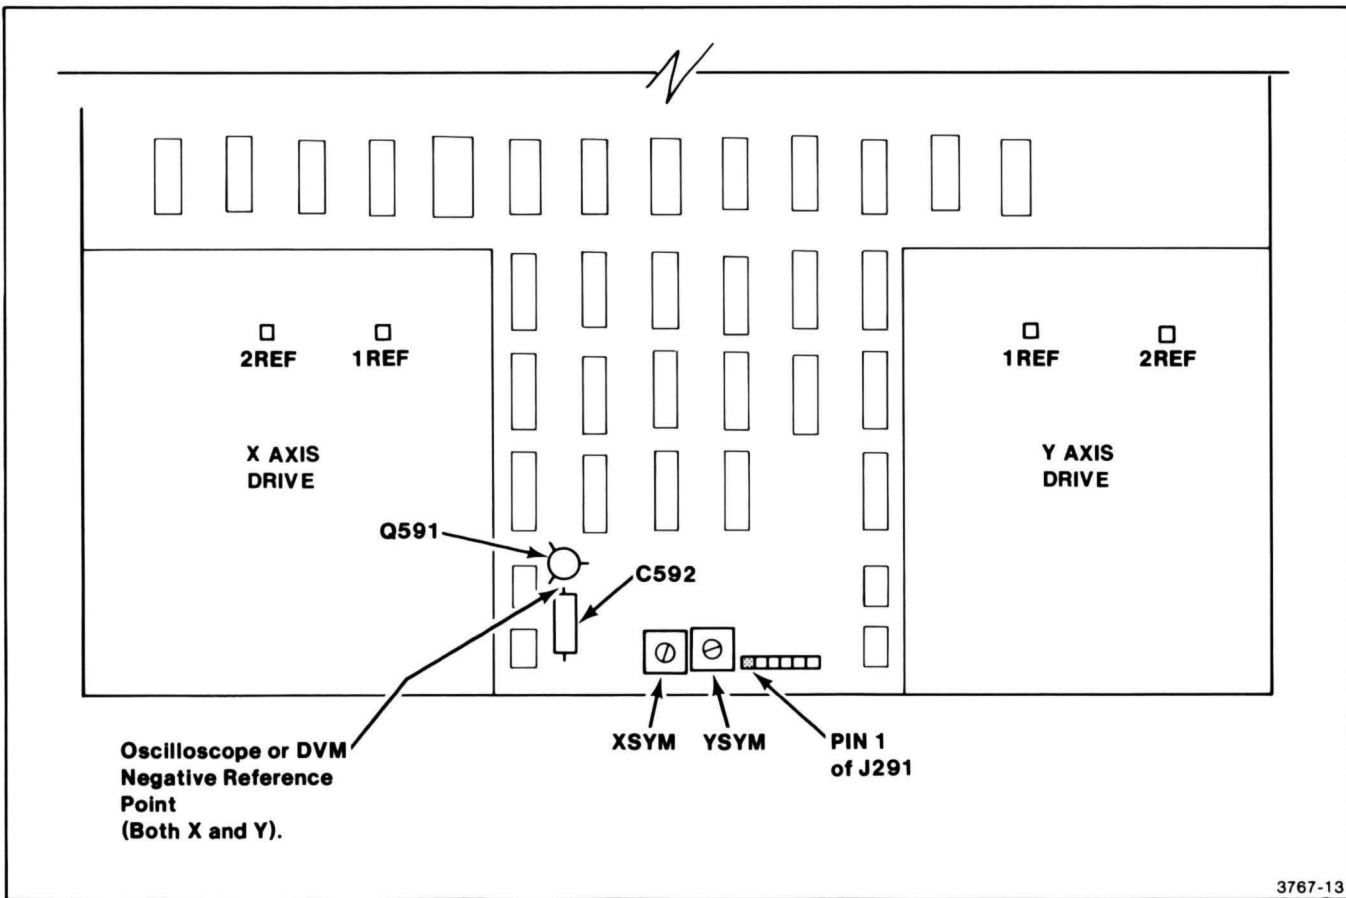

Figure 2-7. X and Y Symmetry Control and Test Point Locations.
3. **Connect** channel 1 of a dual trace oscilloscope to the 1REF test point in the X-Axis Drive (see Figure 2-7). Attach the oscilloscope's ground lead to C592 as shown in Figure 2-7. Use the side that faces Q591. Set channel 1 to 1 V/div and sweep to 1 ms/div.
1. Move the channel 1 scope probe to the 1REF test point in the Y-Axis Drive (see Figure 2-7). Do not move the oscilloscope ground lead.
7. **Attach** the negative lead of either a digital voltmeter (DVM) or an oscilloscope to the side of C592 that faces Q591 (see Figure 2-7).